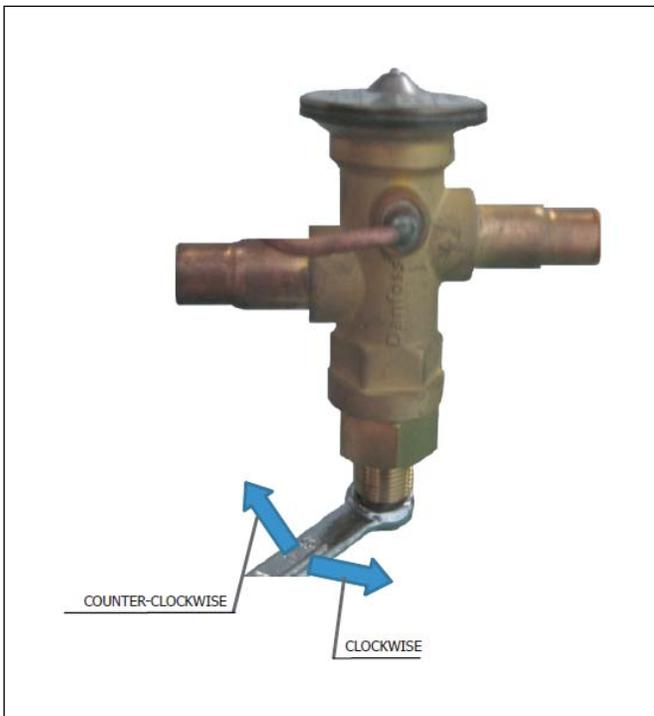

Figure 2 TXV Adjustment Rod
- a. First, take off the nut at the bottom of TXV, then turn the adjustment rod (see Fig.2 below) to adjust: